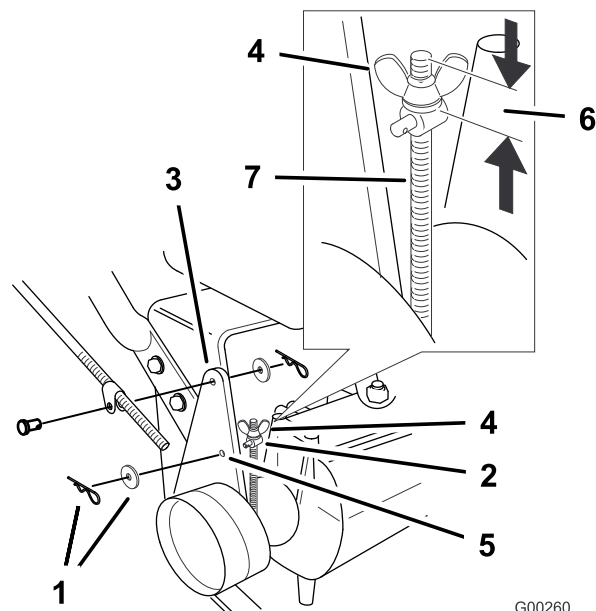

Figure 39
Note: For the initial adjustment, adjust the wing nut until it is 1-1/4 inches from the top of the rod (Figure 39).
5. To adjust the brake, remove the hair pin cotter and washer from the brake lever and trunnion (Figure 39).
8. Install the trunnion into hole **F** (Figure 39). Tighten the wing nut.
9. Secure trunnion to brake lever with washer and hair pin cotter (Figure 39).